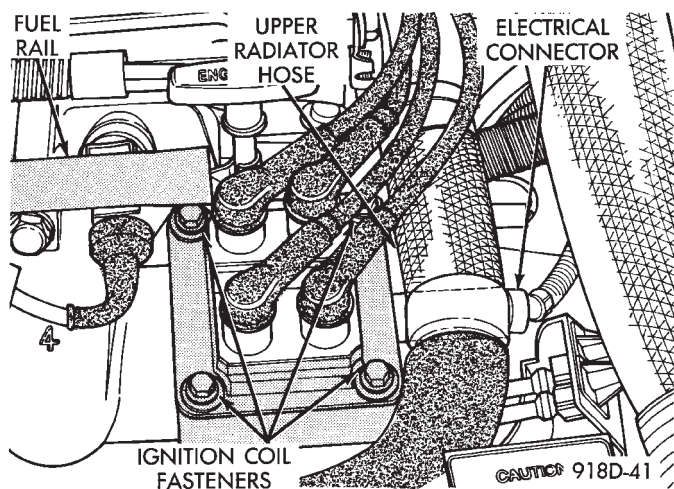

Fig. 3 Distributorless Ignition Coil (DIS) Location
- (5) Remove DIS Ignition Coils from intake manifold (Fig. 3).
(9) Install DIS Ignition Coil pack. Tighten fasteners to 12 N•m (105 in. lbs.) torque (Fig. 3).